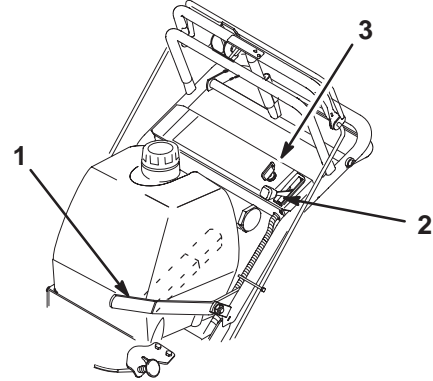

Figure 18
1. Move the throttle lever to slow (Fig. 18).
2. Turn the key to the off position (Fig. 18).